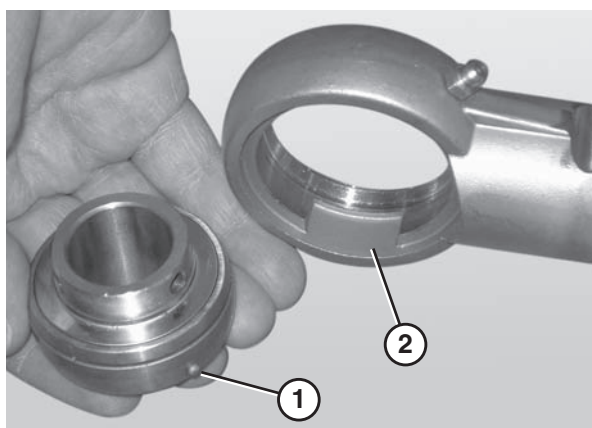

Figure 90
5. Remove the worn or damaged bearing (**Figure 90**).
*When inserting the new bearing, make sure the anti-rotation notch (**Figure 90, item 1**) on the bearing lines up with the groove inside the housing (**Figure 90, item 2**).*